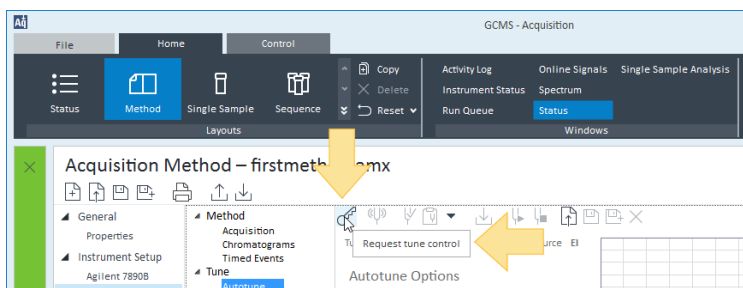

Figure 18. Autotune selection
- a Select **Tune > Autotune**, then click **Request tune control** . The Tune File associated with the currently loaded Method is loaded and the name and type are displayed. (See Figure 18.)